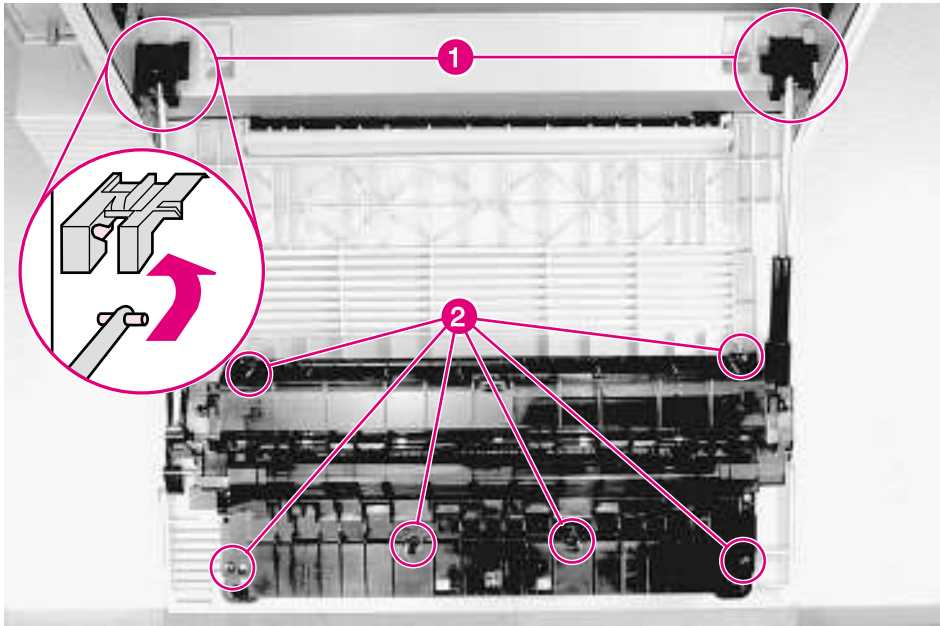

Figure 6-14 Diverter Assembly
- 1 Open the Diverter Assembly access door and release the support struts (figure 6-14, callout 1) by sliding the strut ends forward and downward.
- 2 Remove 6 self-tapping screws (figure 6-14, callout 2).